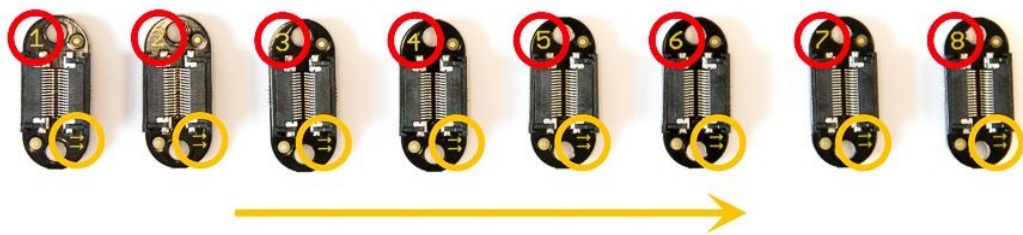

Figure 5. Sensor ascending numeric order
Before connecting, make sure that the sensors are (1) positioned in the correct numeric order and (2) facing the same direction. See Figure 5.
Each sensor is marked with a number (1 to 8), and a direction arrow for connection (Figure 5). Please double-check that the sensor units are placed in ascending order (1, 2, 3, 4, etc.) and that they all face the same direction. In cases when less than 8 sensors are used, always start with the sensor containing the lowest number and then connect subsequent sensors in ascending numeric order.